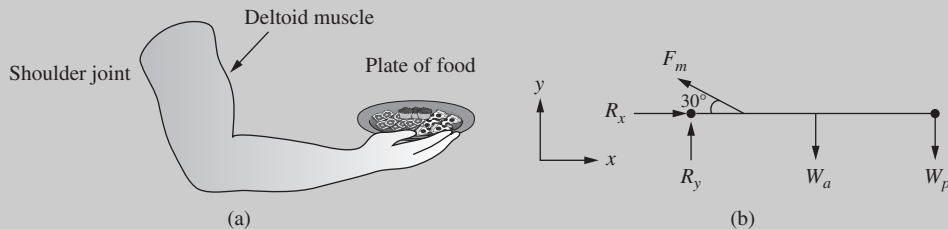

Figure 4.15 Waiter handing a plate to a customer.
A waiter extends his arm to hand a plate of food to his customer. The free-body diagram is shown in Fig. 4.15, where $F_m = 400$ N is the force in the deltoid muscle, $W_a = 40$ N is the weight of the arm, $W_p = 20$ N is the weight of the plate of food, and R_x and R_y are the x - and y -components of the reaction forces at the shoulder.
- Using the x - y coordinate system shown in Fig. 4.15, write the muscle force \vec{F}_m , the weight of the arm \vec{W}_a , and the weight of the plate \vec{W}_p in the standard in the standard vector notation (i.e., using unit vectors \hat{i} and \hat{j}).
(b) It is assumed that the system shown in Fig. 4.15 is in static equilibrium; therefore, the sum of all the forces is equal to zero (Newton's first law):